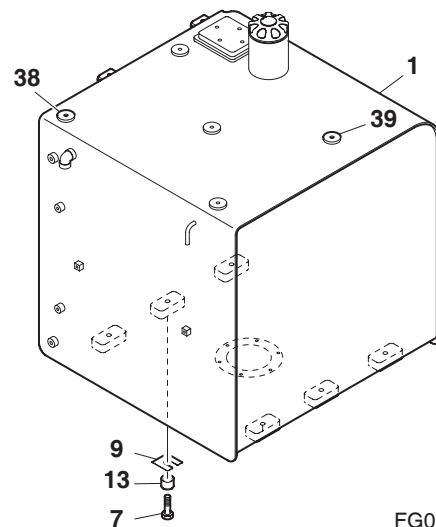

Figure 13
21. Install two 12 mm eyebolts in threaded holes (38 and 39, Figure 13). Using a suitable lifting device, sling eyebolts.
22. Remove six bolts (7) and spacers (13, Figure 13) holding tank (1) to frame. Lift tank 25 mm (1") and make sure it is balanced. Make sure that there are no other electrical wires or hoses connected to tank. Completely remove tank after inspection.
23. Remove shims (9, Figure 13).